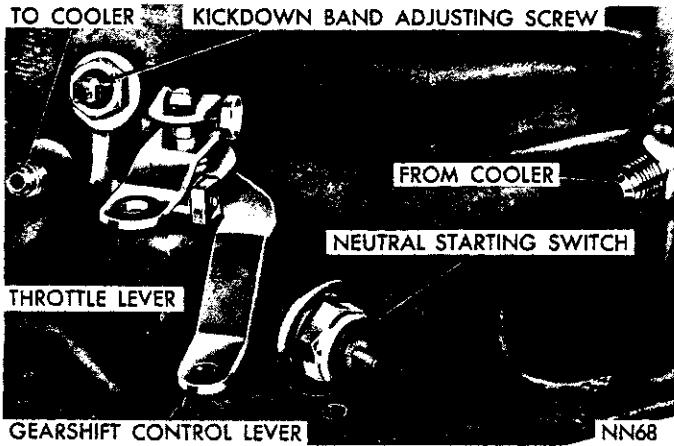

Fig. 97—External Controls and Adjustments
(1) Assemble all linkage parts leaving adjustable rod end free.
(2) Place gearshift selector lever in PARK position and lock steering column with ignition key.
(3) Move shift control lever on transmission all the way to rear (in PARK detent) (Fig. 97).
(4) Set adjustable rod to proper length and install with no load in either direction on linkage.
(5) Check Adjustment as follows: